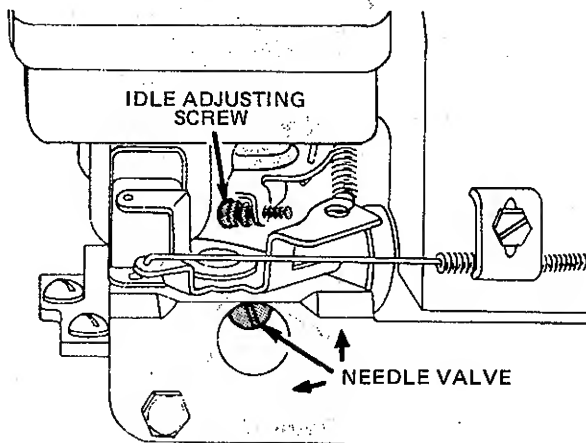

Figure 12
1. Start engine and run long enough to warm it to operating temperature. If engine is out of adjustment so that it will not start, close the needle valve by turning it clockwise. Then open needle valve 1-1/2 turns counterclockwise. (Figure 12)